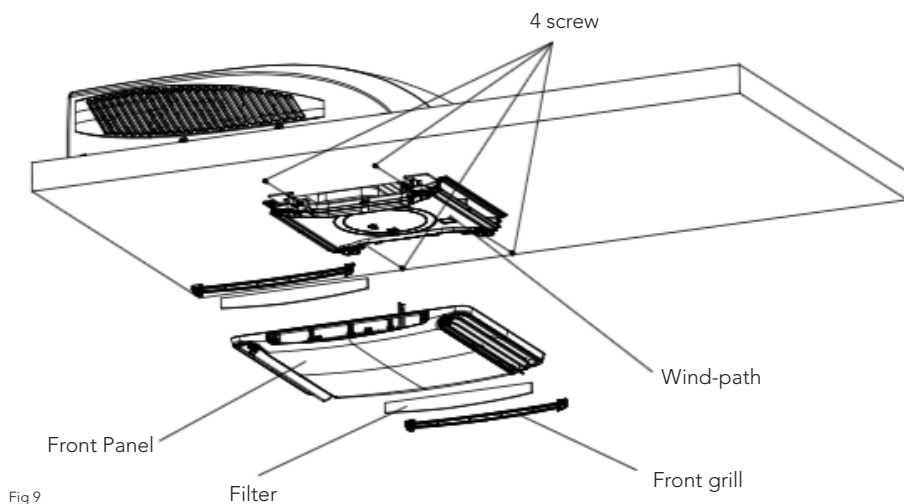

Fig 9
2. Secure the ceiling grille to the ceiling assembly wind-path with 4 screws. (see Figure 9).